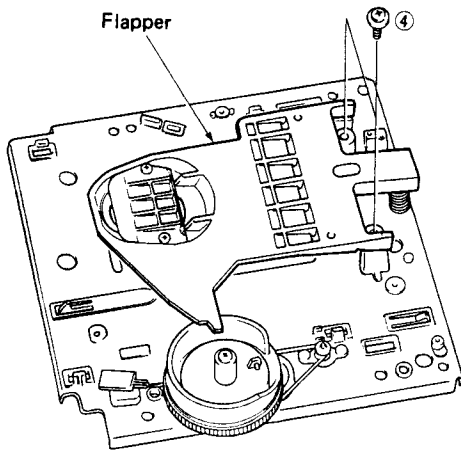

Fig. 5
- a. Remove 2 screws ( ④ ) fixing Flapper in Fig. 5 and then remove the flapper.